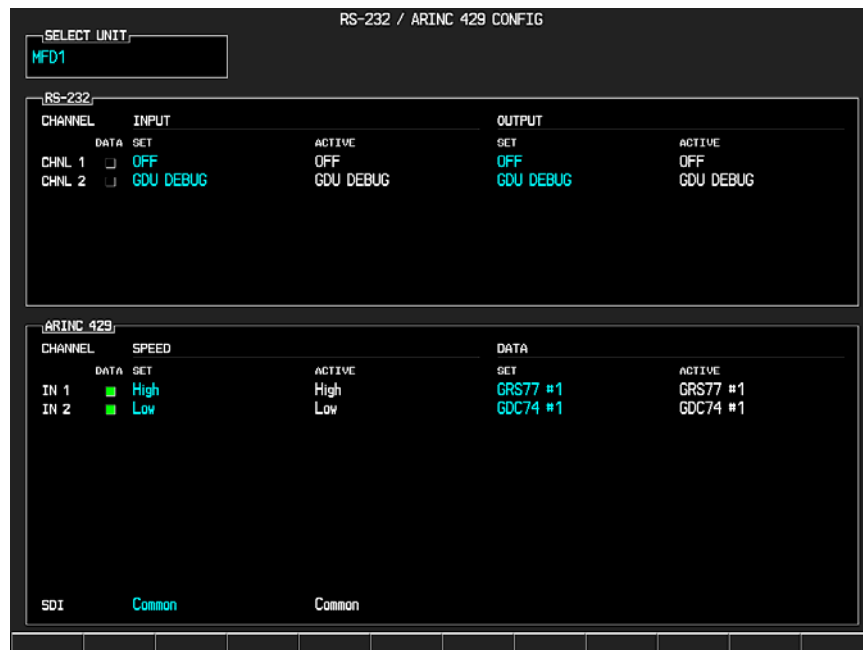

Figure 5-3. Main RS-232/ARINC 429 Configuration Page
1. Main GDU RS-232/ARINC 429 Configuration Page (PFD1/2, and MFD) (Figure 5-3).